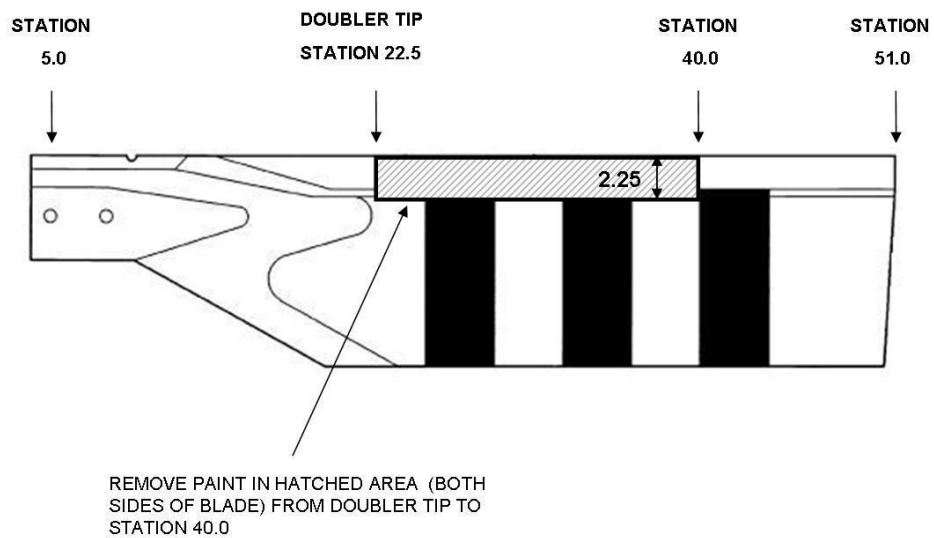

Figure 1
4. Ensure that all paint (on the spar only) is removed from the first 2.25 inches of the leading edge (chordwise) and from the B.S 22.5 (doubler tip) to B.S. 40.0. Refer to Figure 1. This will expose the spar up to the fillet between the blade spar and skin. A fillet filled with adhesive runs spanwise between the blade spar and the skin 2.25 inches aft of the blade leading edge, both inboard and outboard sides. The primary area to be inspected runs along the edge of the spar fillet and a half inch forward of this point. (Between 1.75 and 2.25 inch from the leading edge of the blade and from Blade Stations 22.5 to 40.0, both inboard and outboard sides).